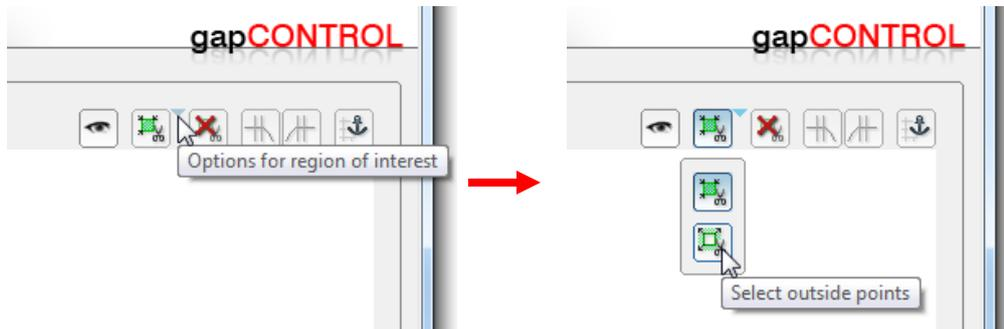

Fig. 3.27: "Options for region of interest" context menu (Select inside/outside points)
- Open the "Options for region of interest" context menu. To do this, press the corresponding button located right to the "Set region of interest" button (see Fig. 3.27)
- Use the context menu to select the desired mode (see Fig. 3.27)